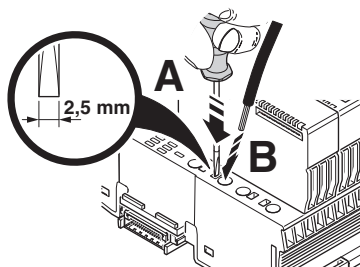

Figure 11-18 Connecting a stranded cable with tools
- Open the spring by pressing the actuation slot with the screwdriver (Figure 11-18, A). Use, for example, a bladed screwdriver with a blade width of 2.5 mm. Phoenix Contact recommends the SZS 0,4x2,5 screwdriver (see Section "Ordering data" on page 130).
- Insert the cable in the terminal point (B).